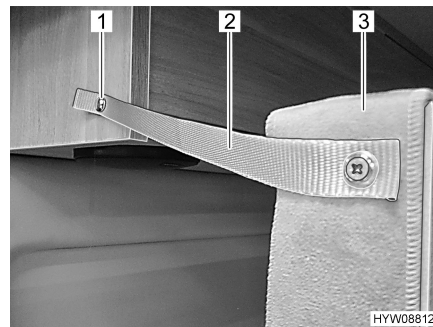

Fig. 34 Securing, back
- Secure the bed (Fig. 34,3) to the roof cabinet with the securing strap (Fig. 34,2) and snap fastener (Fig. 34,1).
- Undo the snap fastener (Fig. 34,1) on the roof cabinet.